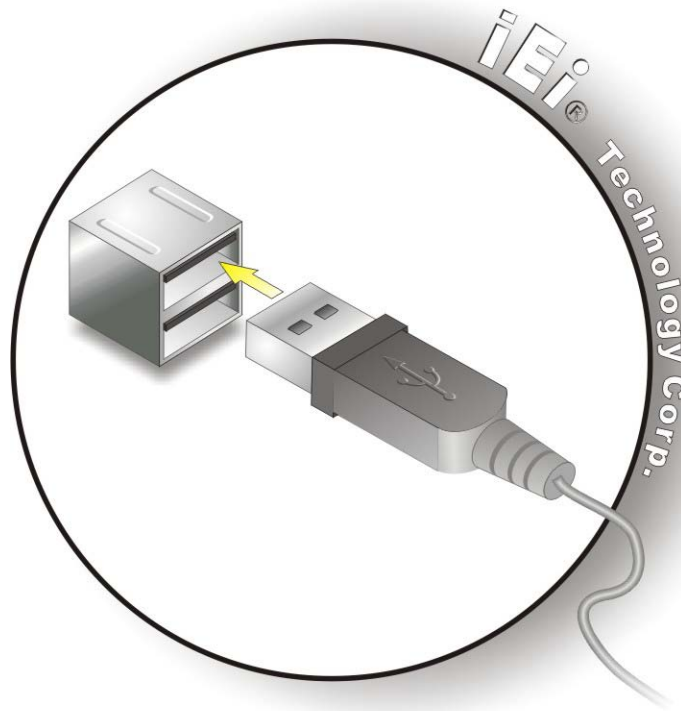

Figure 3-31: USB Device Connection
Step 2: Align the connectors. Align the USB device connector with one of the connectors on the external peripheral interface. See **Figure 3-31**.